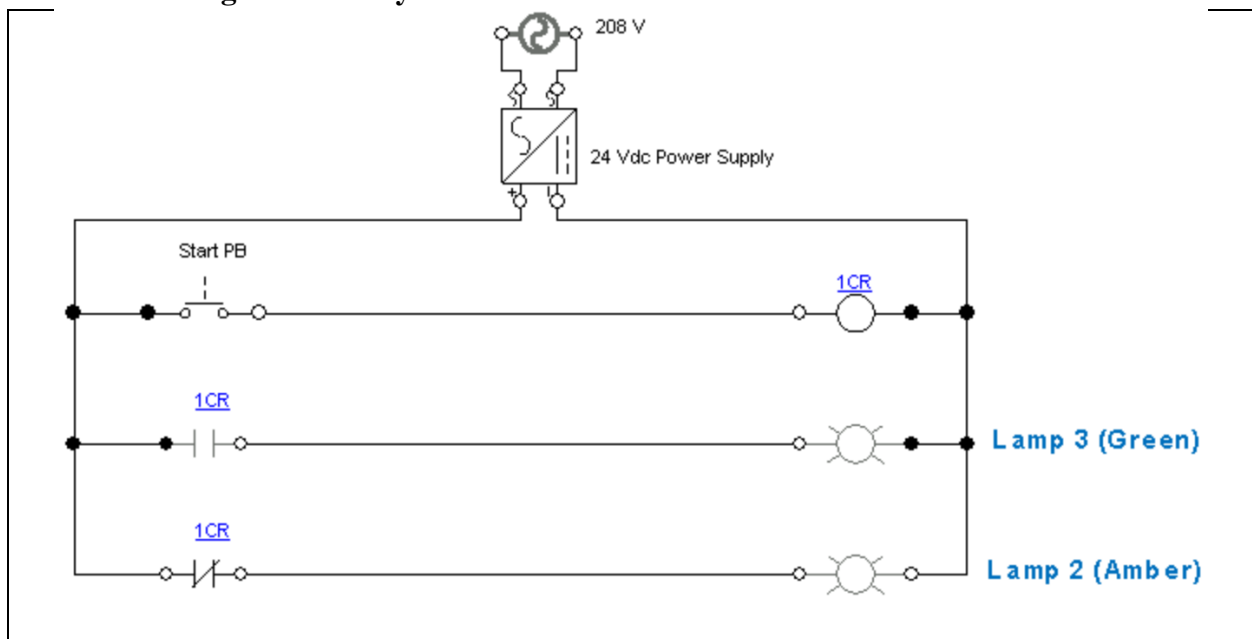

Figure 4. Verifying how a relay works.
1. Figure 4 shows a normally-open pushbutton controlling the relay coil, and two relay contacts controlling 2 pilot lights (Amber and Green, which are also on the Motor Control training unit).
2. Assemble the circuit in Figure 4, then turn power on the unit and do the following voltage checks.
_____ (Instructor Initials) The student demonstrated the skills assembling the circuit in Figure 4, then also measuring the voltages at specified points in the circuit, and explaining to the Instructor how the relay contacts operate when the relay coil is on, and also when it is off.